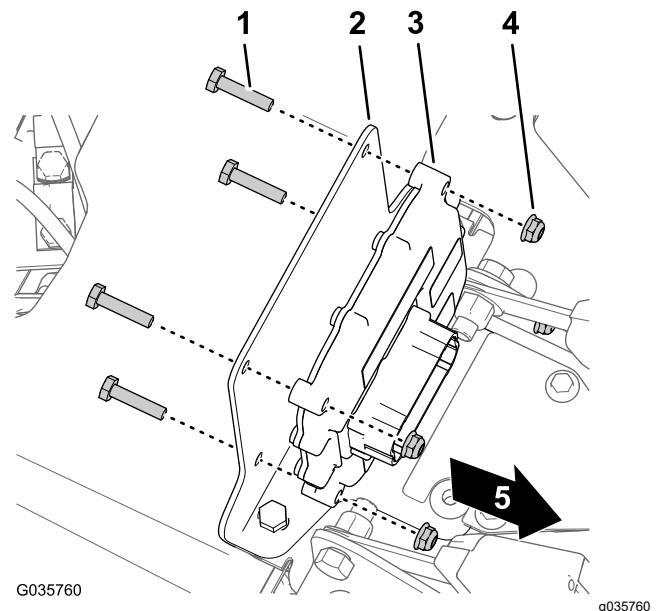

Figure 19
3. Assemble the electronic controller to the mounting bracket (Figure 19) with the 4 bolts (1/4 x 1-1/8 inch) and 4 locknuts (1/4 inch).
2. **For 2015 and before machines**—locate the knockout plug between the inboard operator and passenger seat-belt halves, and remove the knockout plug from the console base (Figure 19).